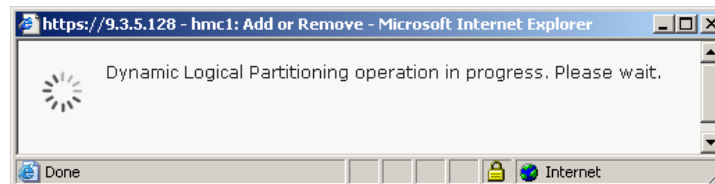

Figure 6-11 Dynamic LPAR operation in progress
3. Click **OK** when you are done. A status window as shown in Figure 6-11 is displayed.